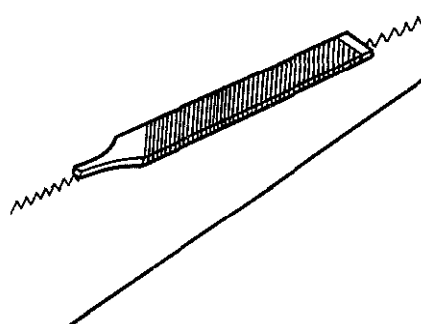

Fig. 7-13 Jointing with a flat file
- b. Lay the file lengthwise on the teeth, as in figure 7-13. File lightly lengthwise along the tops of the teeth for the full length of the blade until the file touches the top of every tooth.